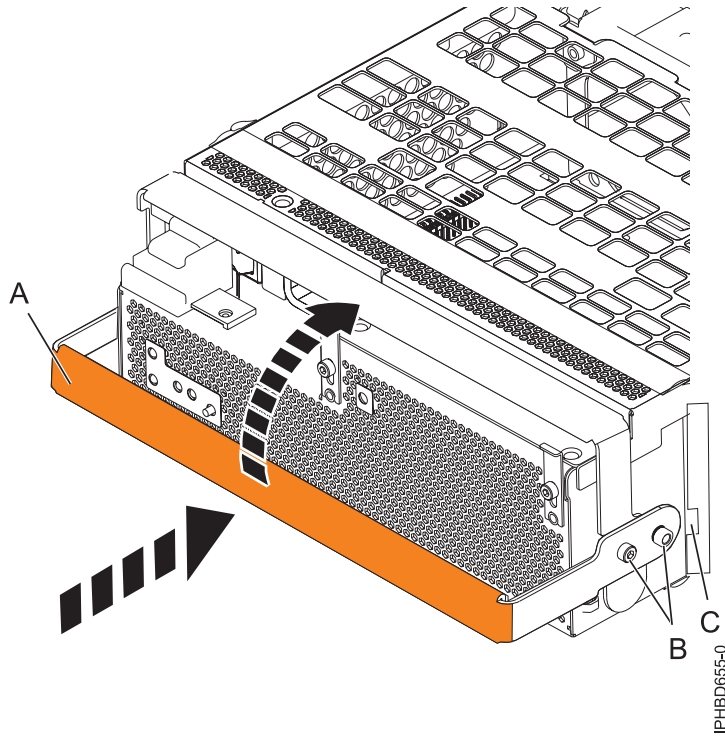

Figure 60. Replacing a power supply
10. To replace the power supply, with the locking handle (A) in the open position, push the power supply into the expansion unit as shown in Figure 60 on page 78.
11. Close the locking handle (A) until the power supply locks into position.